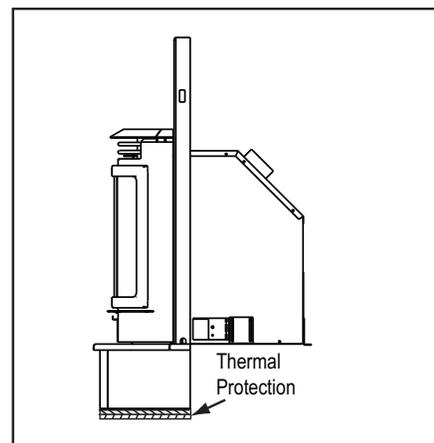

Figure 44.4
10. Thermal protection of 1-1/2 inches (38mm), "k" value of 0.49 and R value of 3.06 under the zero-clearance trim support. Figure 44.4.